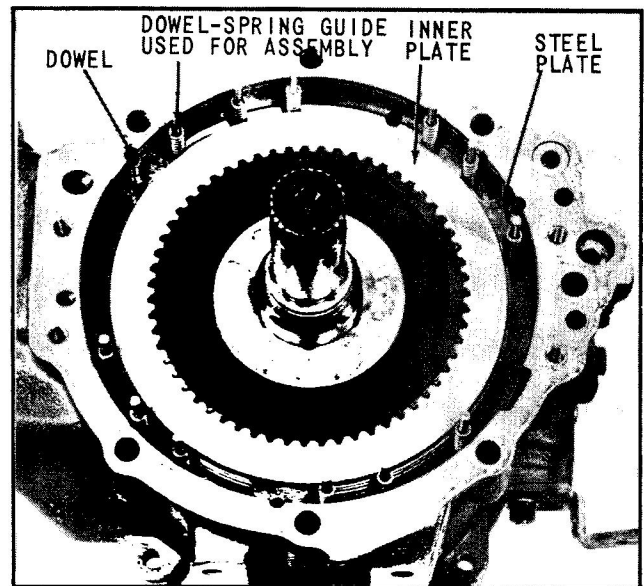

Fig. 50 Install Reverse Clutch Plates
19. Starting with a clutch inner plate aligned with splines of ring gear hub and alternating with a steel outer plate, aligned with dowel pins, (Fig. 50), install 4 inner and 3 outer plates.
NOTE: Place steel plate odd shaped lug over uppermost dowel for spring clearance, (Fig. 50).